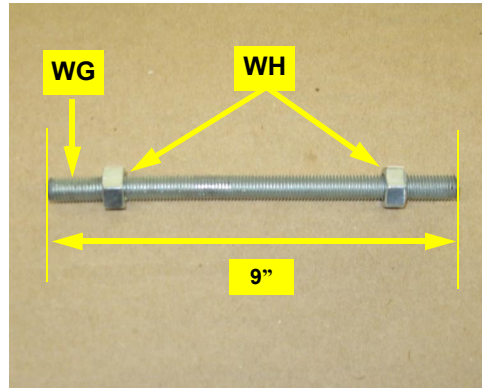

Figure 1d-i: Cut threaded rod
- d. Cut threaded rod **WG** to 9" (Figure 1d-i) then screw the swivel rod ends **WI** onto the cut rod to achieve a center-to-center stud measurement of 10¼" (Figure 1d-ii). Leave **WH** loose until you complete linkage adjustment at step 2.